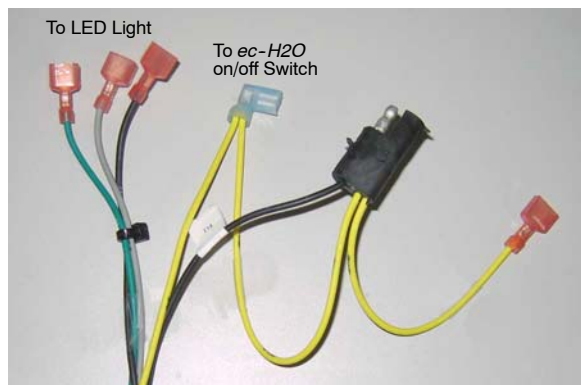
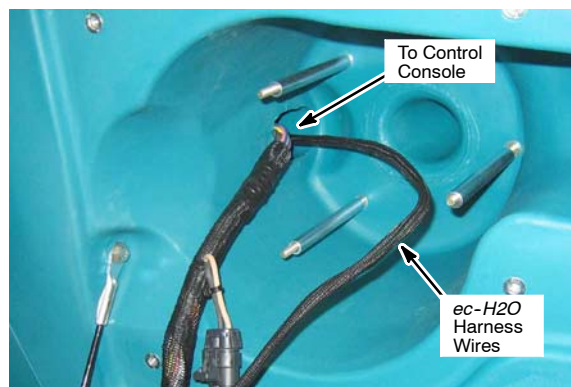

Fig. 8
Fig. 10
6. Route the following *ec-H2O* harness wires to control console as described in steps 7 and 8 (Figure 8).
8. Remove the vacuum motor and route *ec-H2O* harness wires (Figure 8) through the recovery tank harness hole and into the control console (Figure 10). Replace vacuum motor and cover.